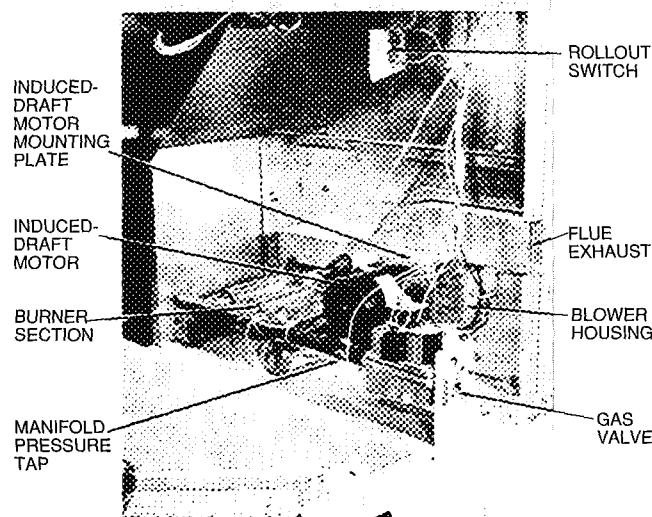

Fig. 32 — Burner Section Details
3. Remove the 7 screws that attach induced-draft motor mounting plate to blower housing (Fig. 32).
REMOVAL AND REPLACEMENT OF GAS TRAIN (See Fig. 32 and 33)